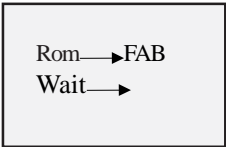

Fig. 4.20
2. Press → in the state shown in Fig 4.20, then the program will be read, block by block (in sequence as B01,B02....)
The SET Frame is shown in Fig. 4.20. A password and real time clock can be set for the edited FAB function program via this SET Frame. When you want to modify the control function, the said password shall be properly input before the editing modification status can be entered (note: the ex-factory password of FAB is 0001). This function is the password lock function of FAB.